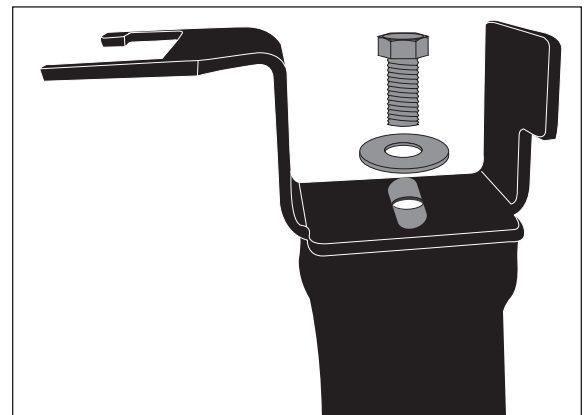

Figure 3
5. Loosely attach the lower bracket (C1, C2) to the bottom of the air spring with 1/2" flat washer (L) and 1/2" Hex Head Cap Screw (J). See Figure 3.